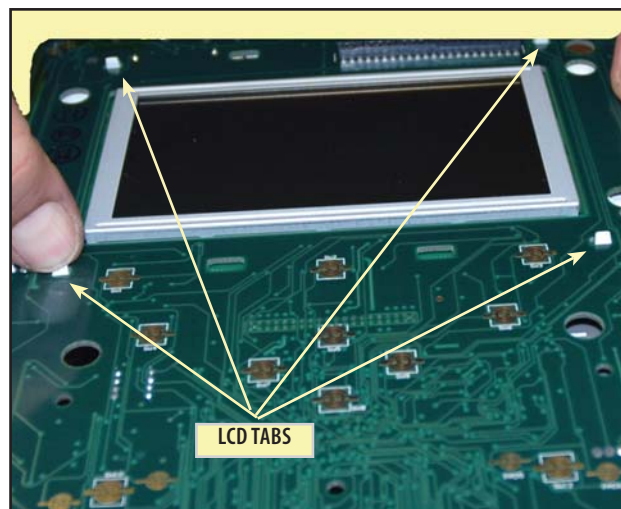

FIGURE 6.21
7. Remove the four LCD Bracket Mounting Screws. **See Figure 6.21.**
9. On the back side of the Control Board, press down and back on the four LCD tabs and push back through the Control Board. **See Figure 6.21.**